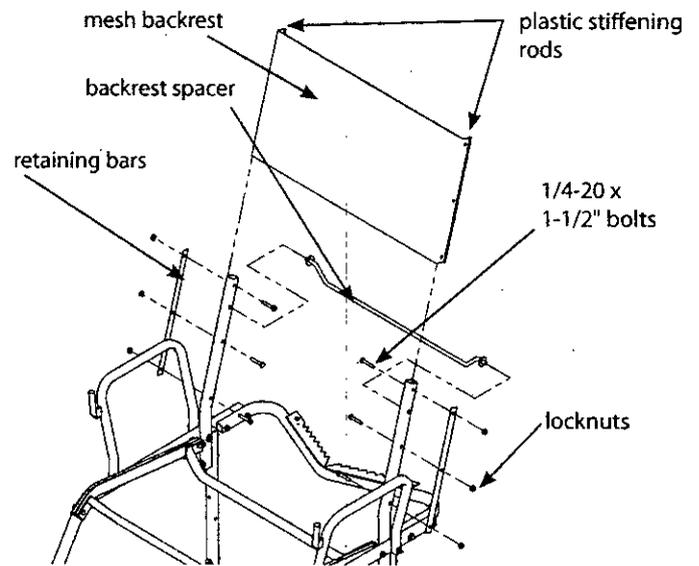

Figure 10
13. Attach the mesh backrest (360012) and the (2) retaining bars (410081) to the backrest mounts using (6) provided 1/4-20 x 1-1/2" bolts and locknuts. **SEE FIGURE 10.** The mesh backrest must wrap around the front side of backrest mounts and the plastic stiffening rod located in the sewn sleeve on each side of the backrest **MUST** be positioned behind the backrest retainer bars to act as a stop and prevent the backrest from pulling out during use. All bolts **MUST** go through the backrest retainer bars, the holes provided in the backrest and the backrest mounts. **SEE FIGURE 10.**
14. Insert the backrest spacer (410119) into holes provided on backrest mounts. This must be done prior to any tightening of bolts. **SEE FIGURE 10. You must now tighten all nut & bolt assemblies. Be sure not to over tighten or crush tubing when tightening!**